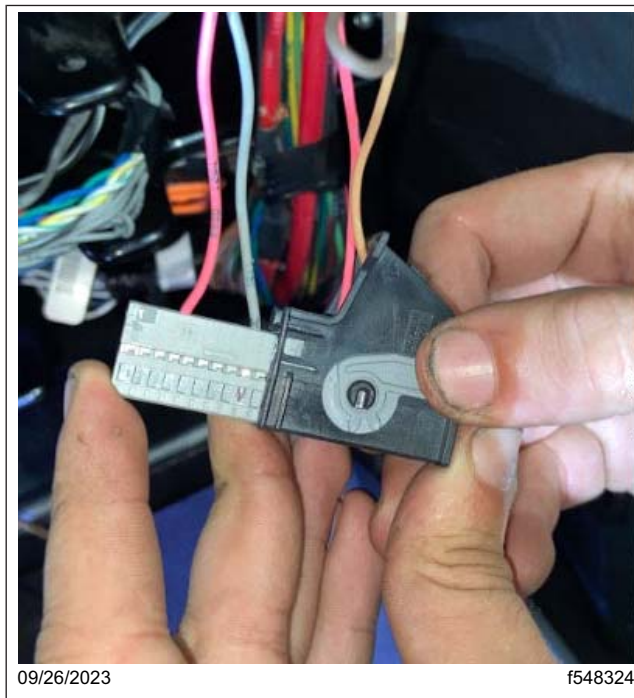

Fig. 56, Inserting the Gray Terminal Bank into the XMC2 X2 Connector
13.12 Insert the gray terminal bank back into the XMC2 X2 connector, as shown in Fig. 56.